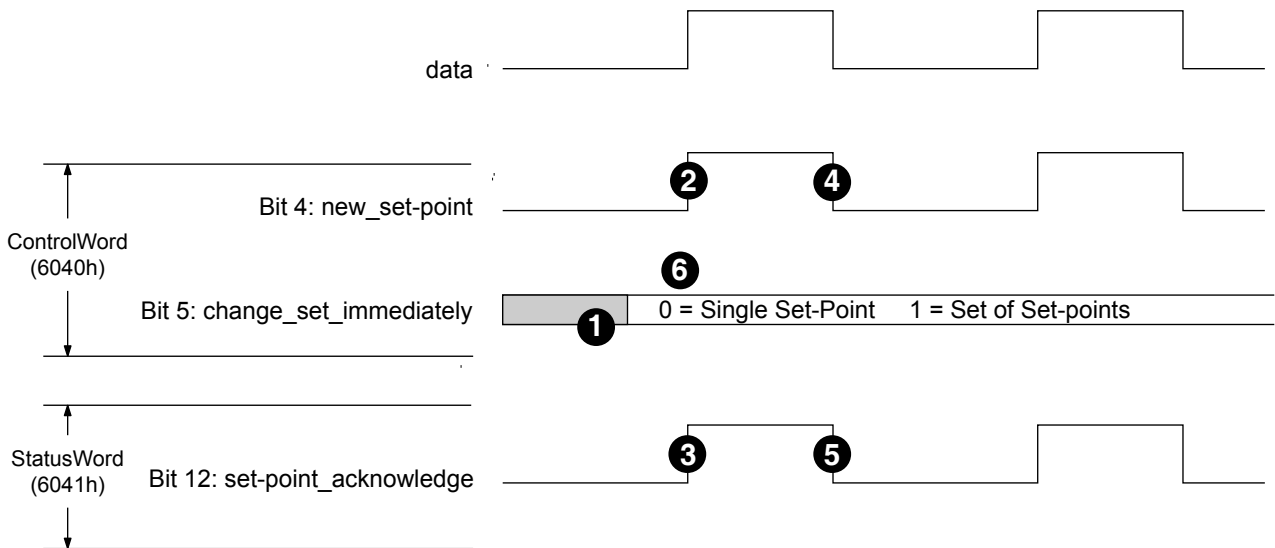
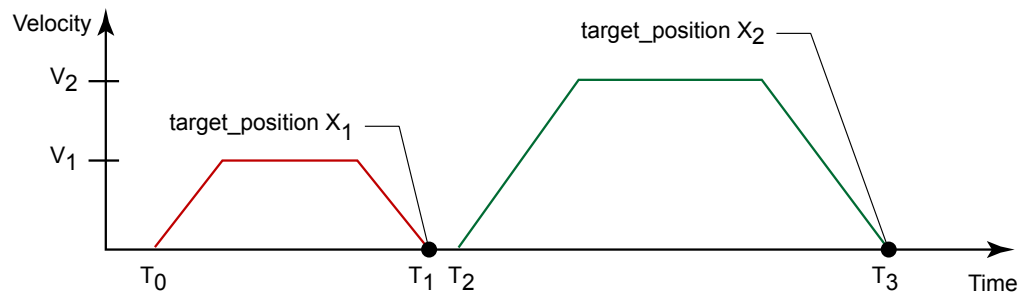
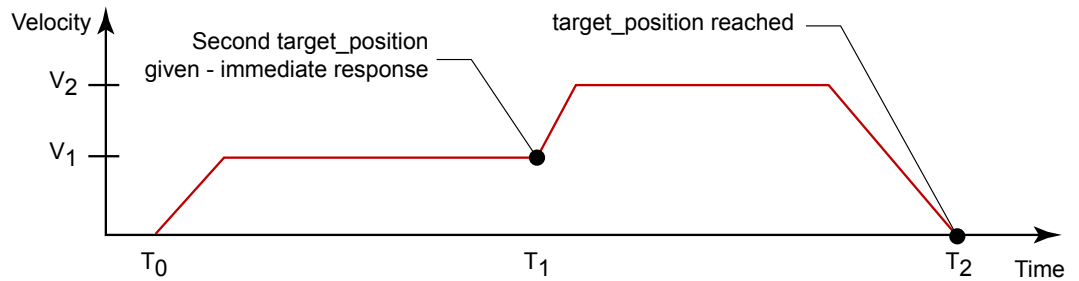

Figure 6.3: Set-point transmission from host (see table 6:14 for states)
Figure 6.4: Single set-point mode (move after a move) 6040_h bit 5=0
Figure 6.5: Set of set-points (move on a move) 6040_h bit 5=1
Figure 6.3, Figure 6.4 and Figure 6.5 illustrate the difference between the "set of set-points" mode and the "single set-point" mode. The initial status of the bit `change_set_immediately` in the controlword determines which mode is used. Trapezoidal moves are used as this is the only `motion_profile_type` the MDrivePlus CANopen supports.
If the bit `change_set_immediately` is "0" (shaded area in Figure 6.3) a single set-point is expected by the drive (1). After data is applied to the drive, a host signals that the data is valid by changing the bit `new_setpoint` to "1" in the controlword (2). The drive responds with `set-point_acknowledge` set to "1" in the statusword (3) after it recognized and buffered the new valid data. Now the host may release `new_setpoint` (4) and afterwards the drive signals with `set-point_acknowledge` equal "0" its ability to accept new data again (5). In Figure 6.4 this mechanism results in a velocity of zero after ramping down in order to reach a `target_position X1` at T_1 . After signalling to the host, that the set-point is reached like described above, the next `target_position X2` is processed at T_2 and reached at T_3 .
With `change_set_immediately` set to "1" (6), symbolized by the clear area in Figure 6.3, the host advises the drive to apply a new set-point immediately after reaching the last one. The relative timing of the other signals is unchanged. This behavior causes the drive to already process the next set-point `X2` and to keep its velocity when it reaches the `target_position X1` at T_1 . Then drive moves immediately to the already calculated next `target_position X2`.